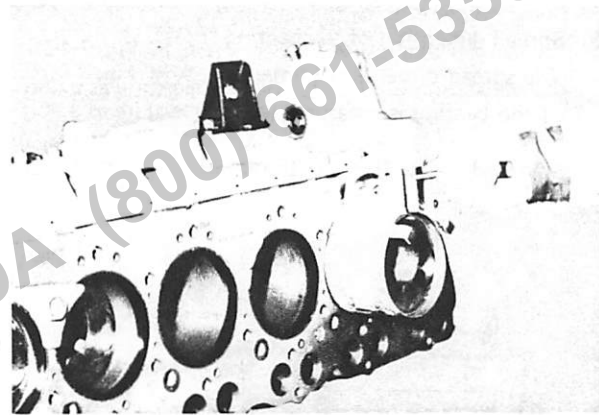

Fig. 3-4-26 Fitting piston
2) As shown in Fig. 3-4-26, arrange each ring, and push in piston head with a piston ring holder (special tool No. 09441-1041) and a wooden rod.
(3) Fitting connecting rod